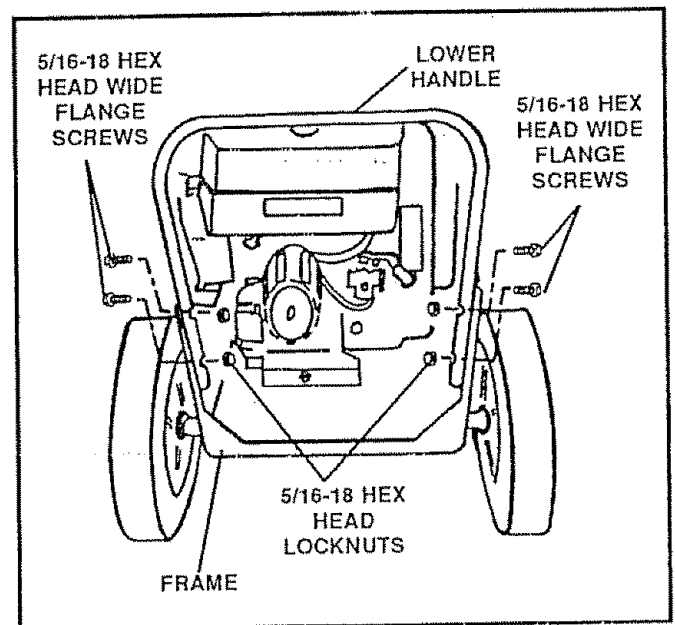

FIG. 3A
- Place the lower handle inside the edger frame (See Fig. 3A) and secure in place with four (4) 5/16-18 hex head wide flange screws and four (4) 5/16 hex head locknuts (found in parts bag).